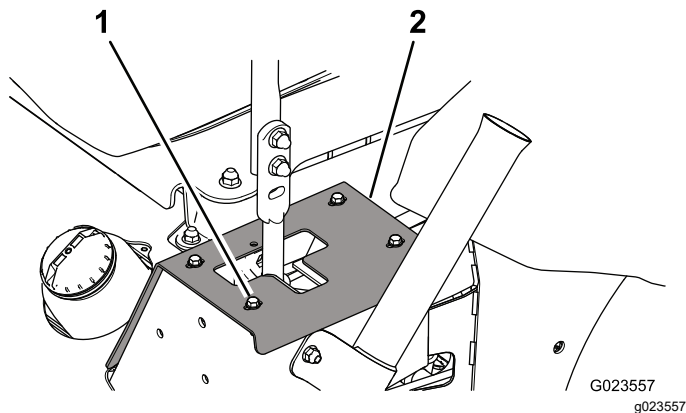

Figure 61
2. To access the damper-mounting bolts, remove the bolts that secure the stop plates to the frame (Figure 61).